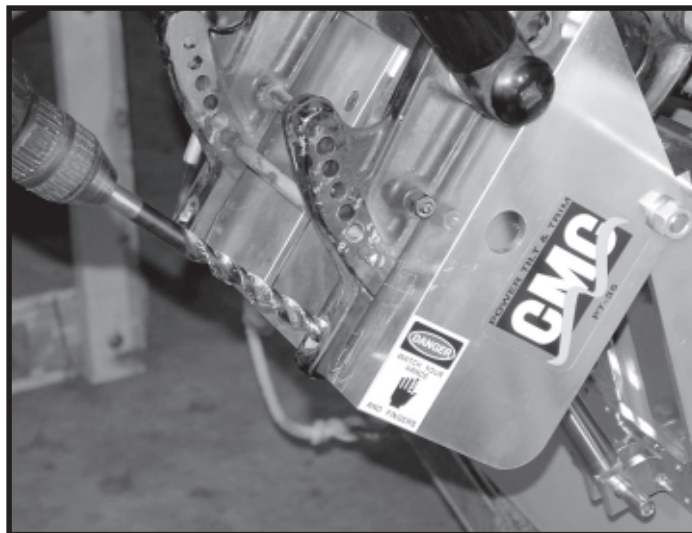

Fig. 8
Step 8: If your motor has two mounting bolts at the bottom, using the mounting holes as a template, drill through the PT-35 as shown in fig. 8.
CAUTION: SO THAT YOU WILL NOT ACCIDENTALLY DRILL INTO THE ACTUATOR, TILT THE PT-35 AS SHOWN IN Fig 8.